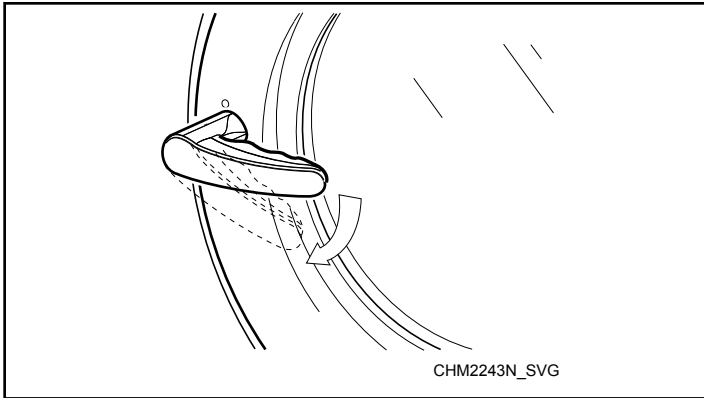

Figure 41
2. Turn handle clockwise to open. Refer to *Figure 41*.